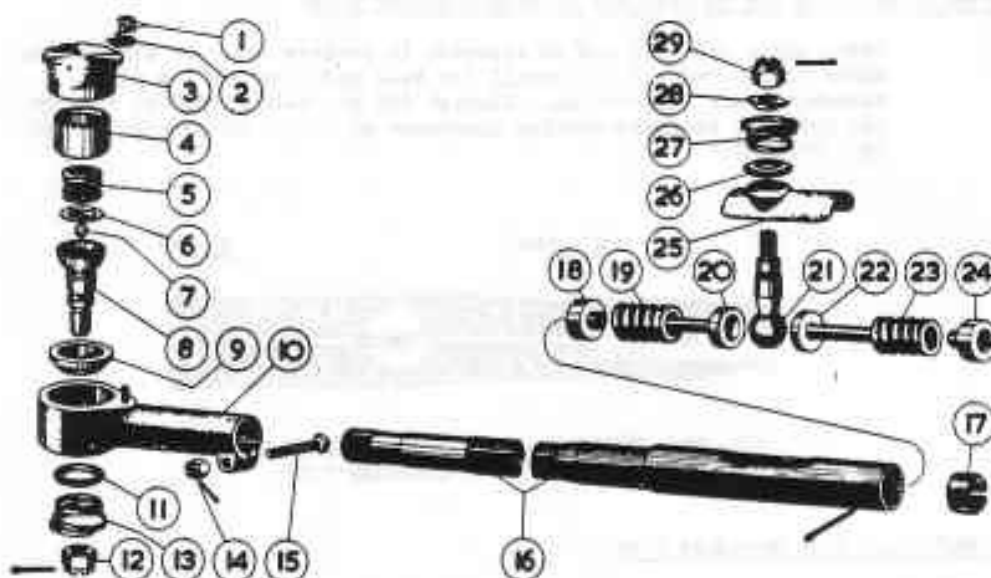
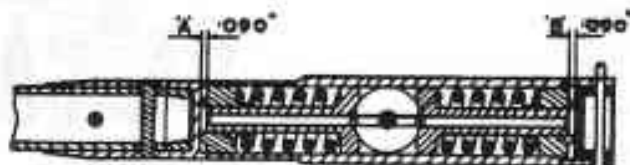

FIG. H8. SIDE STEERING TUBE, "EXPLODED" VIEW.
FIG. H9. SECTION - BALL JOINT AT REAR END OF SIDE STEERING TUBE.
The ball joints are lubricated from the centralised chassis lubrication system. No adjustment is provided for the poundage on the ball joint at the front end of the tube, as a coil spring exerts a constant pressure on the joint (see Fig. H9), it can be adjusted for length. The length is fixed by the makers during the building of the chassis; it is screwed into a socket and attached to the centre steering lever. If replaced, the new tube must be adjusted for length.
- (i) Remove nut (12, Fig. H8) from the ball pin at the front end of tube. Remove ball pin (8), pressure spring (13) and sealing disc (11).
- (i) Remove nut, spring washer (1), Fig. H8, and locking plate (2); Cap nut (3) and sleeve (4); spring (5), spring pad (6), ball (7) and ball pin (8). (The ball pad (9) can be removed if necessary).
Smear parts with oil and re-assemble in reverse order of dismantling. Screw in the end nut (17) until the ball pads, spring and guide assemblies are choc-a-bloc. Slacken the nut back 0.180" to restore the original standard working clearance of 0.090" at points 'A' and 'B', Fig. H9.
Ensure that the mud excluder (25, Fig. H8) is fitted correctly. Enter the pin (21) into the pendulum lever. Place the locating washer (28) on to the ball pin to ensure alignment of the oil holes in the ball of the pin with the axis of the side steering tube. If the pendulum lever has been removed from the rocking shaft, refit the ball pin of the side steering tube to the pendulum lever on the bench. With the coiled lubrication pipe and cover in position on the pendulum lever, fit lever to rocking shaft in original marked position.
Place the spherical face of the sealing disc (11) against the ball pad (9, Fig. H8), place the small diameter end of the pressure spring (13) on to the spigotted sealing disc. Enter the ball pin into the centre steering lever.
The four ball joints are identical and lubricated from the centralised chassis lubrication system. A coil spring exerts a constant pressure on the joints. (See Fig. H9). In the event of wheel wobble or of road re-action transmitted to the steering wheel, increase the loading of the two outer ball joints. To increase the loading, fit a packing washer or shim between the coil spring (19, Fig. H8) and the cap nut (40). Ensure that the thickness of the packing washer is such that when the cap nut is fully screwed up, the spring is not choc-a-bloc. The cross steering tubes are adjustable for front wheel alignment (toe-in) purposes as described in "Steering Geometry".